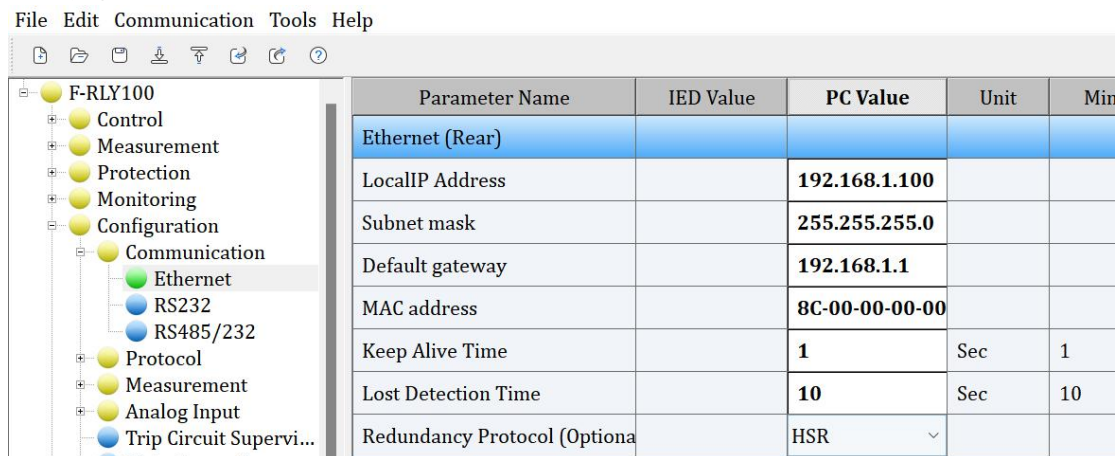

Figure 41
- 4) Click the “Communication” and parameter settings window will popup where it is possible to edit. (Figure 41)